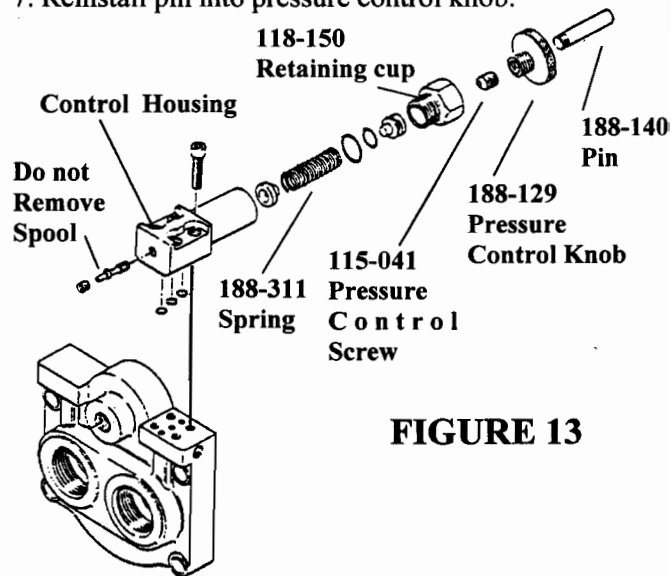

FIGURE 13
2. Hold pin (PN 188-140, Fig. 13) with pliers and turn pressure control knob clockwise toward pressure position until pin is removed from knob.